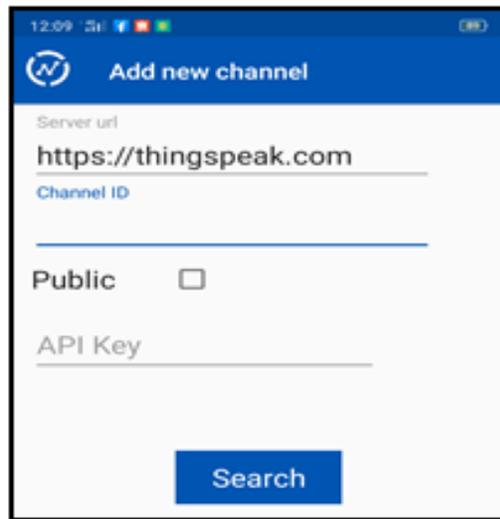

Figure C2
- 3) Insert the Channel ID and API Key. Then click Search button as shown Figure C2.